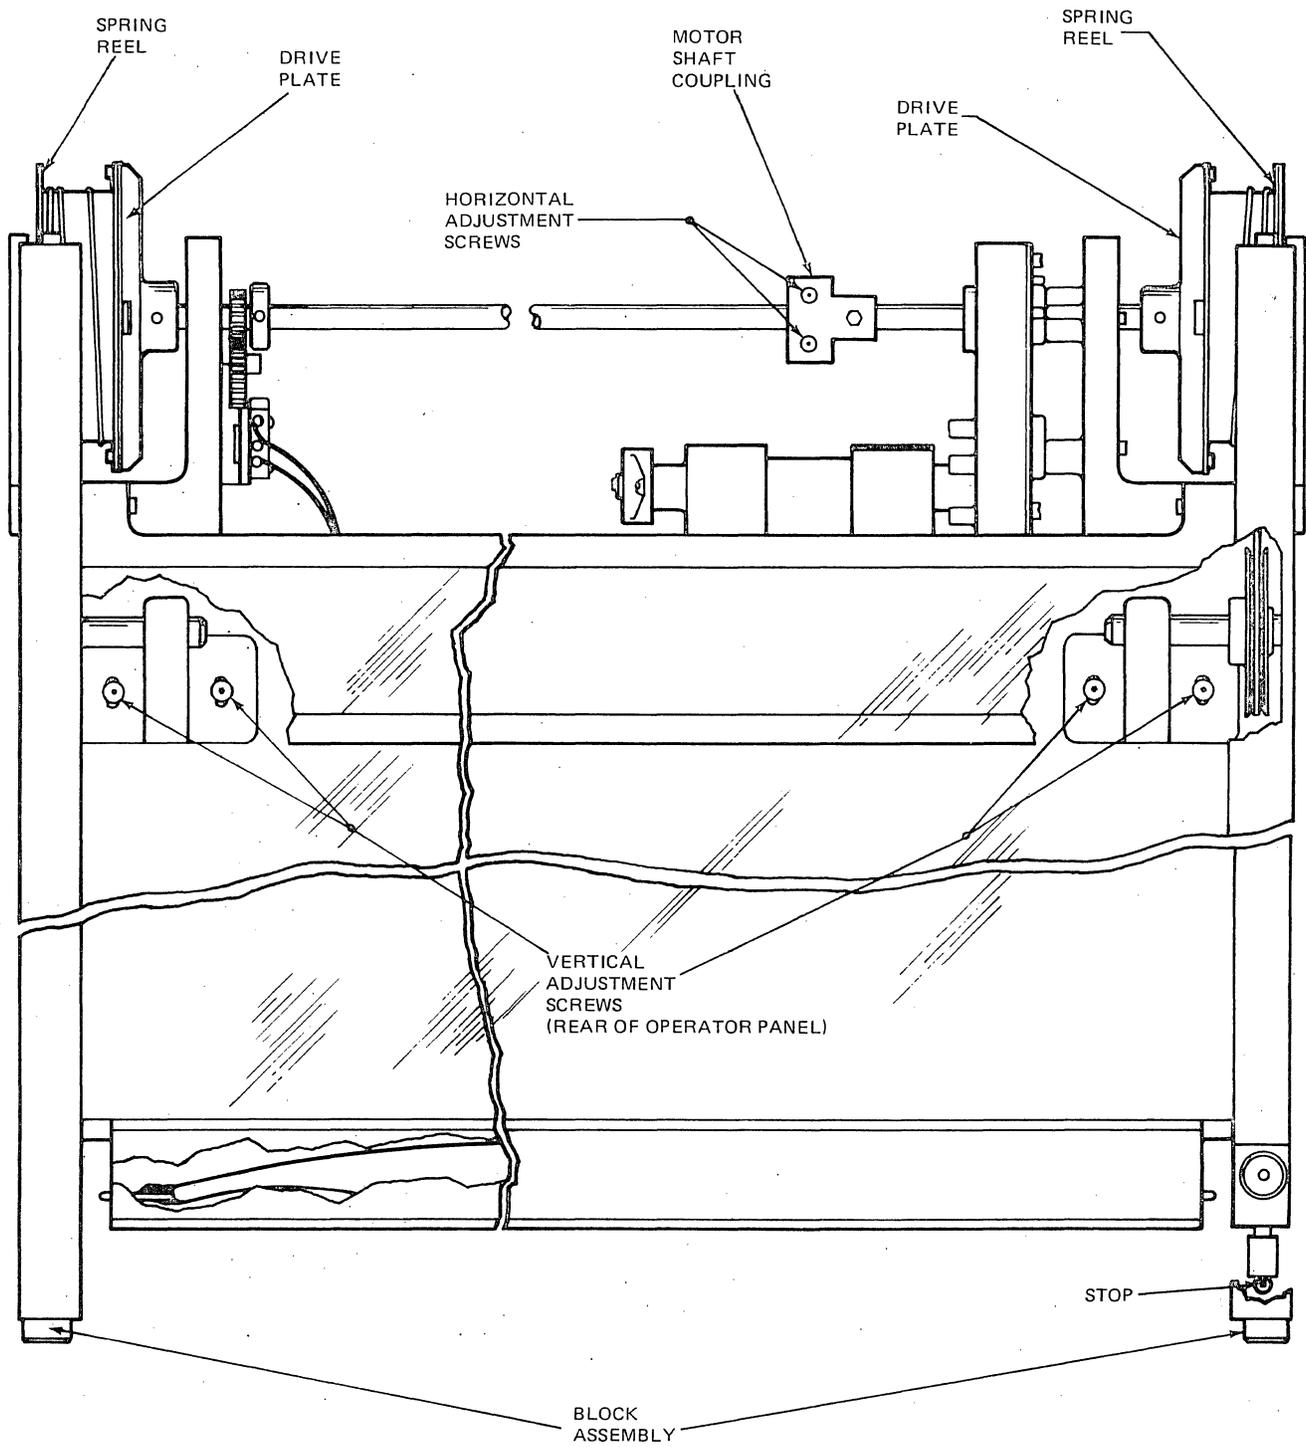

Figure 4-29. Power Window Adjustments
1. Loosen the two cap screws on the drive-shaft coupling (see Figure 4-29 for the cap screws location).
1. Remove the screws (6) holding the operator panel in place and set the panel back on the top of the tape unit.
2. Disconnect the cable from the spring reel by removing the screw securing it (see Figure 4-29).